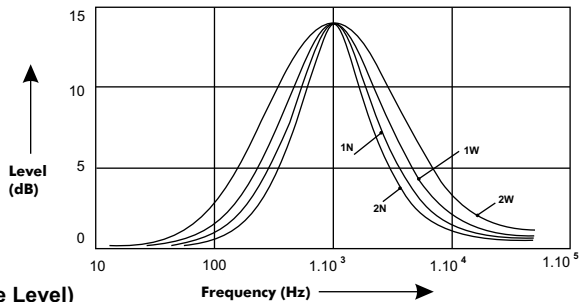

Figure 2
- The Middle-Q (Middle Quality Factor) can be adjusted as shown in Fig 2.
Figure 2 shows the middle Quality factor (Curve characteristics) of each step.